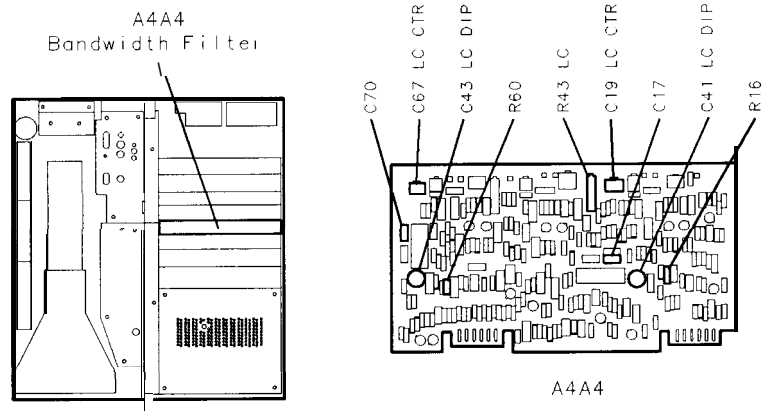

Figure 3-41.
9. Adjust A4A4C67 LC CTR and A4A4C19 LC CTR for maximum MARKER level as indicated by CRT annotation. See Figure 3-41 for location of adjustments. If unable to adjust LC CTR adjustments for satisfactory signal amplitude, increase or decrease value of A4A4C17 and A4A4C70. Refer to Table 3-3 for range of values.
13. Adjust A4A4R43 LC to align markers on display. **MARKER A** level should indicate 1.00 X. See Figure 3-41 for location of adjustment.
53. Adjust A4A4C41 LC DIP for minimum amplitude of signal peak. See Figure 3-41 for location of adjustment. Key in [PEAK SEARCH] MARKER [Δ], and adjust LC DIP again to offset the signal peak approximately -17 kHz (to the left). This is done to compensate for the effect of placing the board on extenders. If unable to achieve a “dip” in signal amplitude, increase or decrease value of A4A4R16. Refer to Table 3-3 for range of values.
55. Adjust A4A4C43 LC DIP for minimum amplitude of signal peak. See Figure 3-41 for location of adjustment. Key in [PEAK SEARCH] MARKER In], and adjust C43 LC DIP again to offset the signal peak approximately -17 kHz (to the left). If unable to achieve a “dip” in signal amplitude, increase or decrease value of A4A4R60. Refer to Table 3-3 for range of values.